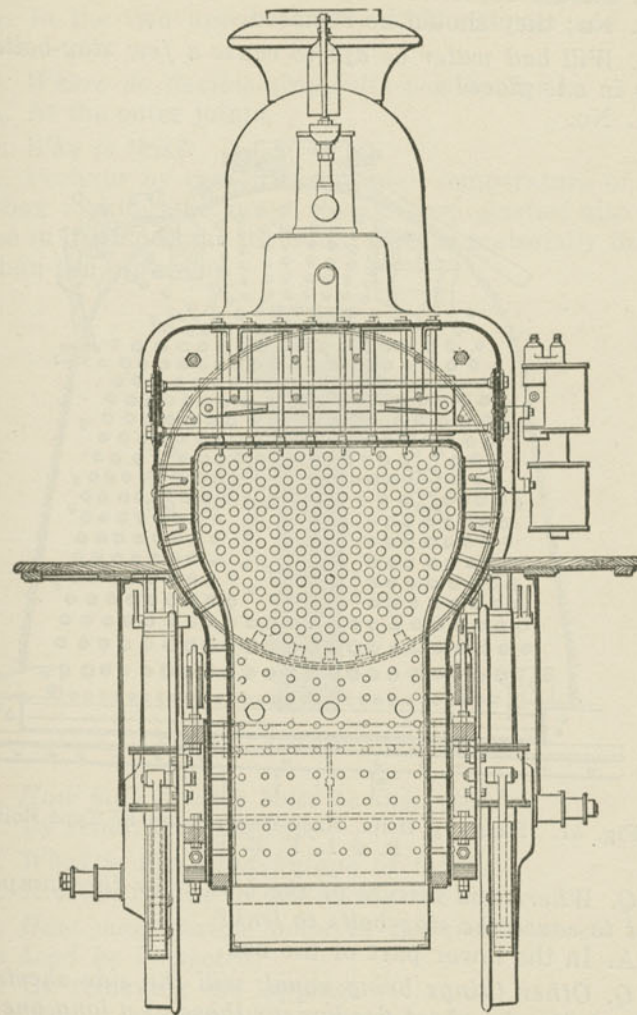

Fig. 50. Cross Section, Pennsylvania R. R. Engine, Class "O."
*A.* To a very slight extent their own stiffness; to a very great extent the stay-bolts, extending from the inside to the outside sheets. (See Fig. 50.)